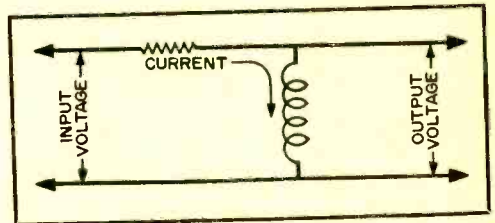

Fig. 1. Arrangement of resistance and inductance in series, as discussed in text.
Assume an inductance connected to a supply voltage, as shown in Fig. 1, through a series resistor. If the supply voltage is steady, the current flowing through this network will depend upon the value of the resistor. Since the current is steady, no voltage appears across the inductor. This means that the full input voltage will appear across the resistor only.
Using the circuit shown in Fig. 1, the inductance across the line will—after the circuit has reached its normal operating level—result in two effects: (1) as the frequency of the input voltage is reduced, the output voltage will advance in phase with respect to the input voltage; and (2) the output voltage will be reduced in amplitude until, with a zero frequency input (steady d.c.), there is no output voltage at all across the coil.
Fig. 2. Waveforms of voltage across different parts of the circuit of Fig. 1, and the current, for two different frequencies. The frequency at (B) is lower than that at (A). Note that, at low frequencies, the voltage appearing across the inductance is actually in advance of voltage at input.